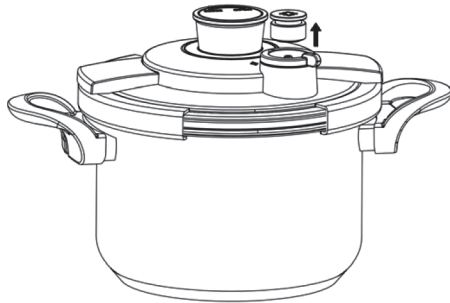

fig 11
- B.After each use, clean the pressure regulator. Gently lift the valve with your thumb and index finger, then directly pull it out (as shown in Figure 11), and clean the dirt inside the valve body with clean water.The safety valve should also be regularly inspected and cleaned. During cleaning, it can be easily disassembled from the cover. After cleaning, it can be assembled as it was. After cleaning, the cover should be reversed to check if the safety valve stem can fall freely(Clamp in close state),